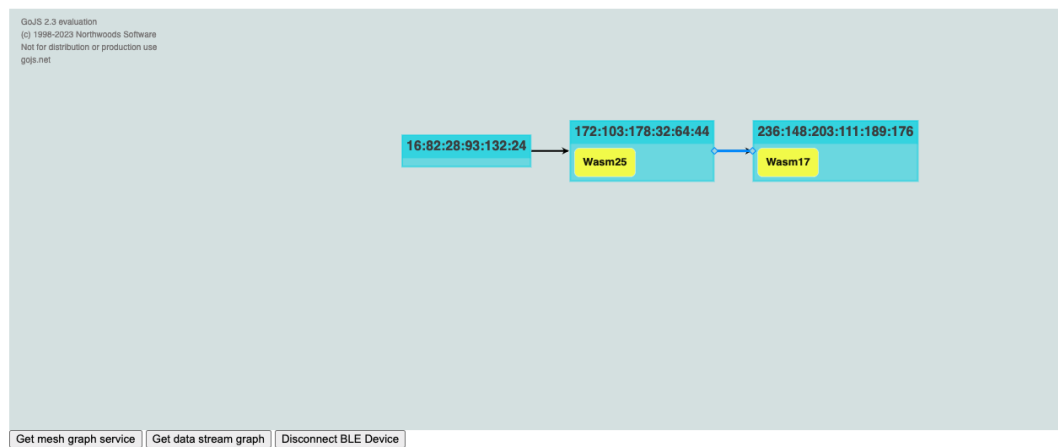

Figure 5: Graph with links
3. You can add a link between nodes by dragging (Figure 5).